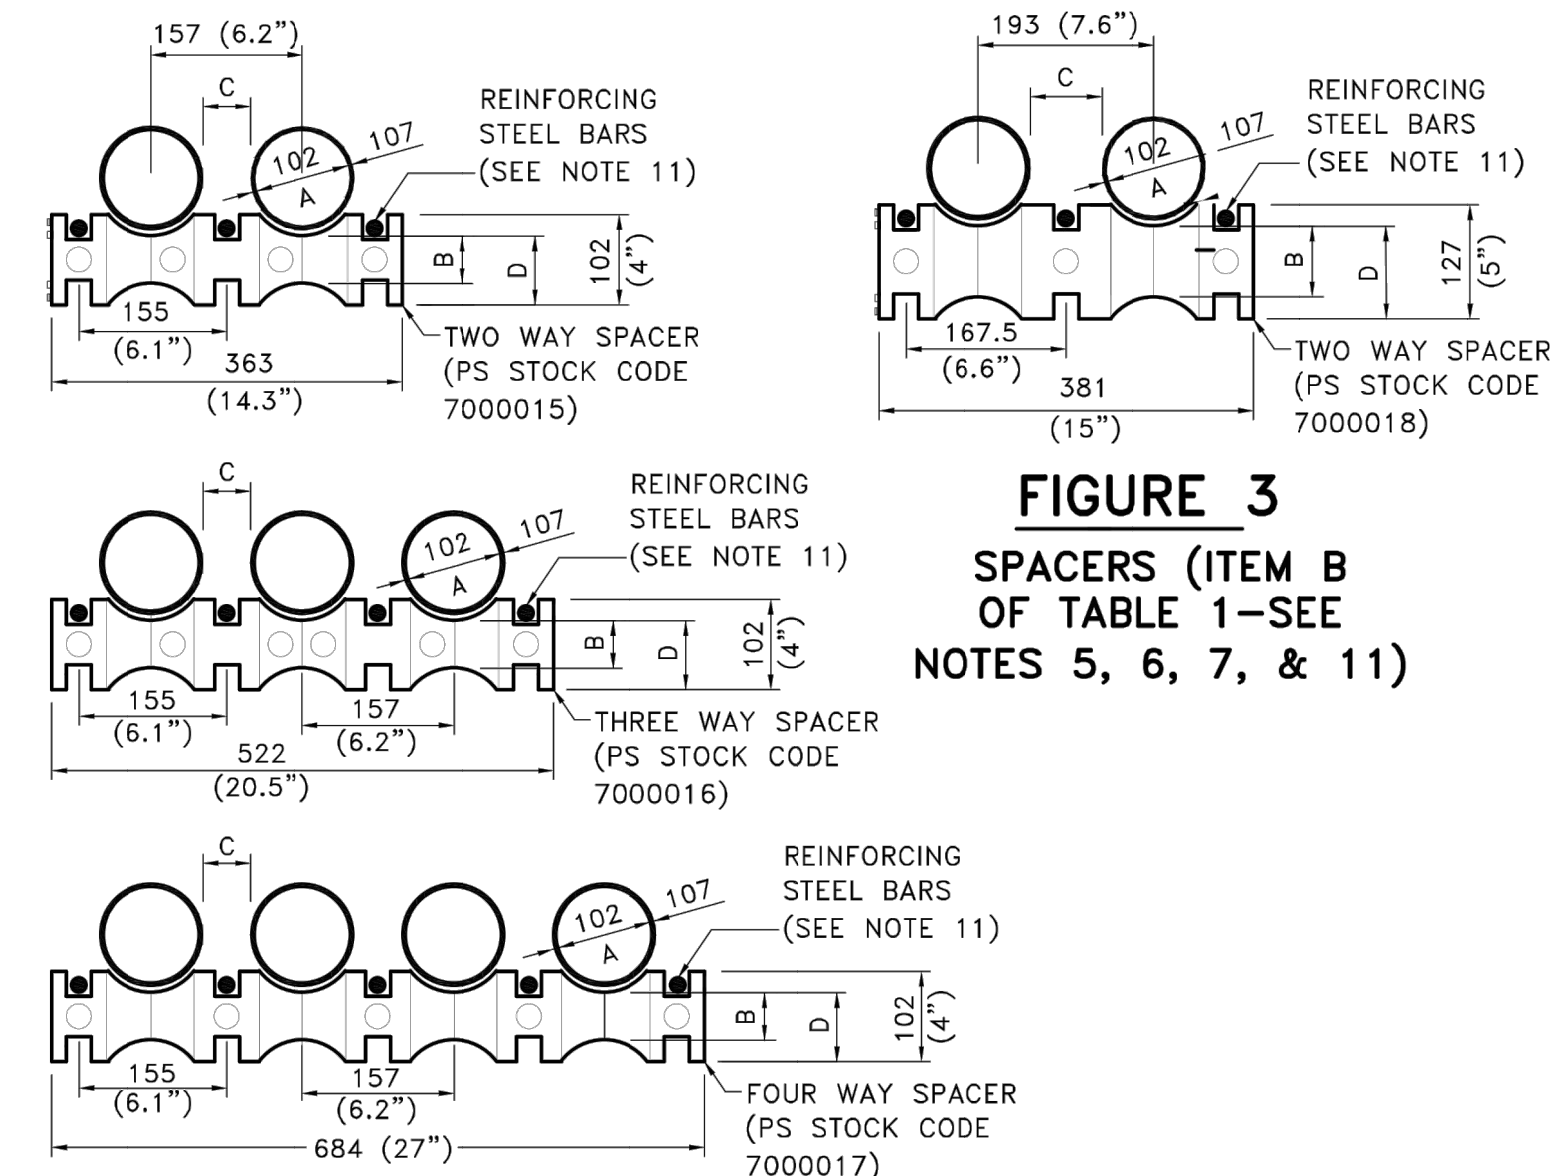

FIGURE 2
| A (FIGURE 2) | 102 (4")                           | 51 (2")                       | 157 (6.2")              | 51 (2")                         | 157 (6.2")              | 76 (3")                           | 2, 3 or 4      |
- DUCTS TO BE SUPPORTED WITH POWERSTREAM APPROVED SPACERS (STOCK CODES 7000015, 7000016, 7000017, 7000018) AS SHOWN IN FIGURE 2 AND 3. THE SPACERS SHALL BE INSTALLED WITHIN 600mm ON BOTH SIDES OF EACH COUPLING USED. TWO SPACERS FOR 3.0m OF DUCT LENGTH SHALL BE USED.
- THE DUCT RUN SHALL BE REINFORCED. REINFORCING STEEL BARS 15mm (5/8") DIAMETER SHALL BE LAID LONGITUDINALLY ALONG THE TRENCH WITH 155mm (FIGURE 2) OR 167.5mm (FIGURE 3) LATERAL SPACING AND 75mm ABOVE THE BASE OF THE CONCRETE. AN OVERLAP OF 600mm OF THE REINFORCING BARS SHALL BE PROVIDED WHERE NECESSARY. THE REINFORCING BARS SHALL BE TIED TOGETHER WHERE THEY OVERLAP. THE DUCT RUNS SHALL ALSO BE REINFORCED AT ALL BUILDING AND MANHOLE ENTRIES WITH THE BARS BEING EMBEDDED IN THE WALLS.